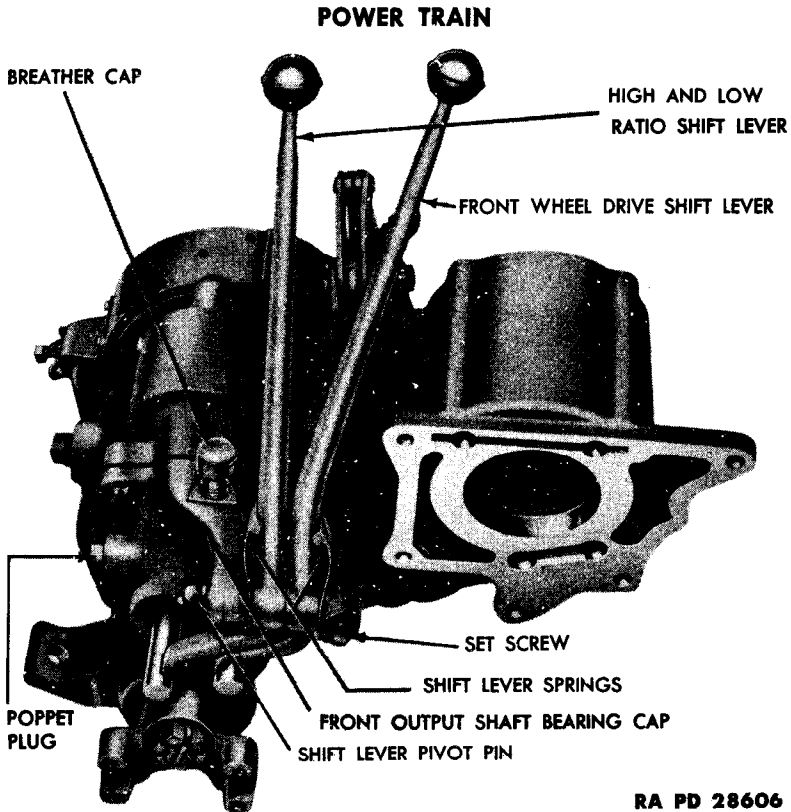

Figure 29 — Transfer Case Shift Levers
d. Remove Shifter Shaft and Front Output Shaft Bearing (fig. 29). Shift front axle drive to the engaged position. Remove the poppet plug, spring, and ball on both sides of the output shaft bearing cap. Remove the five cap screws that secure the front output shaft bearing cap to the transfer case. Remove the front output shaft bearing cap as an assembly with the universal joint flange, clutch shaft, bearing, clutch gear, shifter fork, and shifter rod. Be careful not to lose the interlock in the front bearing cap.
(7) **SHIFT LEVER ASSEMBLY** (fig. 29). Replace the shift levers if found bent or damaged. Replace the shift lever spring if bent or cracked. Measure the diameter of the shift lever pivot pin. If the diameter is less than 0.500 inch, replace the pivot pin.